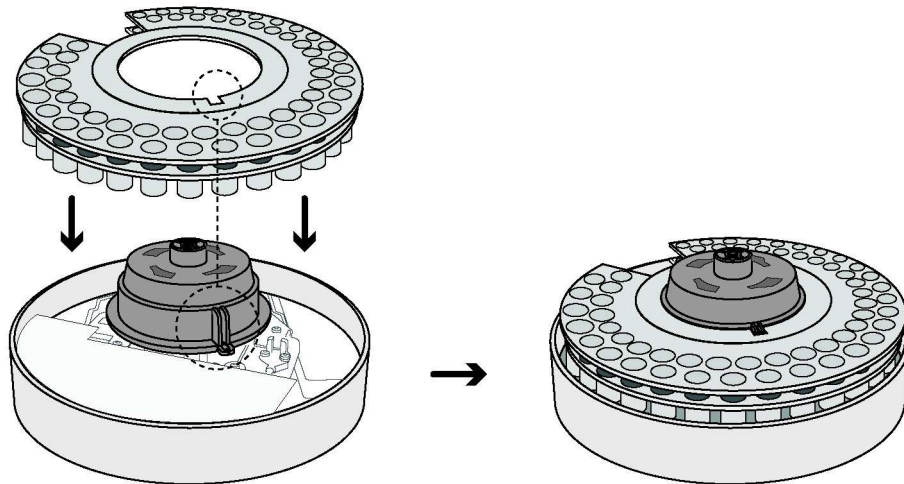

Figure 59 Place the turret onto the turret hub
- 2 Align the tabs on the turret hub with the notch on the inside of the turret, and place the turret onto the turret hub (Figure 59).